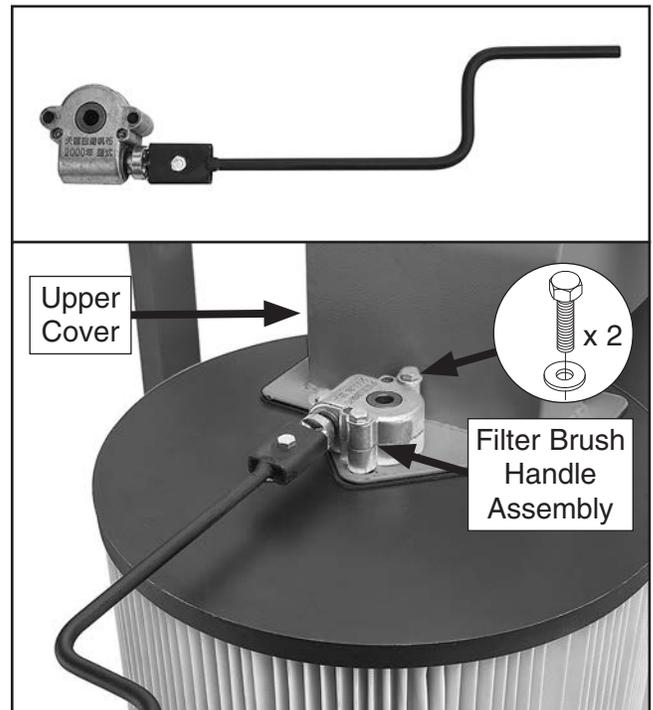

Figure 26. Filter brush handle assembly installed on canister filter.
22. Install filter brush handle assembly (see **Figure 26**, inset) over spindle block and upper cover, then secure with (2) $\frac{5}{16}$ "-18 x 2 $\frac{1}{2}$ " hex bolts and (2) $\frac{5}{16}$ " flat washers (see **Figure 26**).